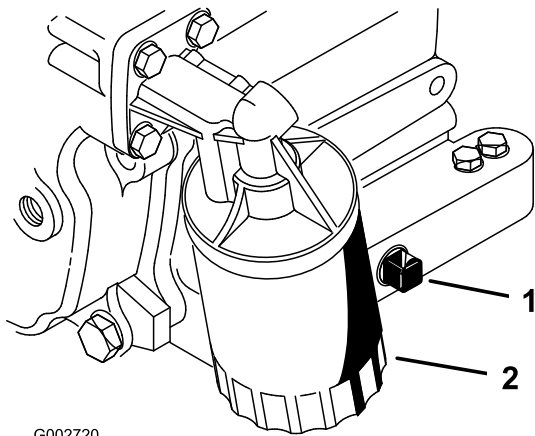

Figure 27
2. Remove the drain plug (Figure 27) and let oil flow into a drain pan. When the oil stops, install the drain plug.
3. Remove the oil filter (Figure 27).